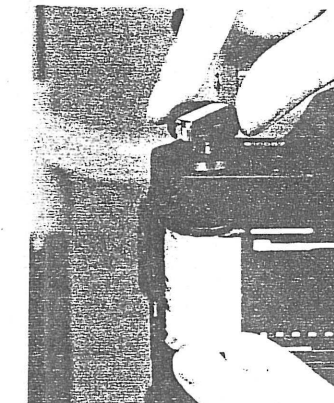

Fig. 19
2. Fully open the back cover and insert the film cartridge into the cartridge compartment. (Fig. 19)